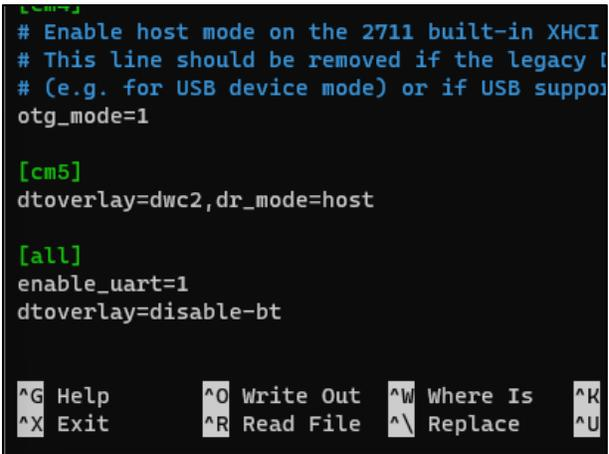

Figure 101 Configuration to enable serial connection
- a. Under `[all]`, confirm that `enable_uart` is set to 1 as shown in **Figure 101**.
- b. Under `[all]`, add `dtoverlay=disable-bt` as shown in **Figure 101**.